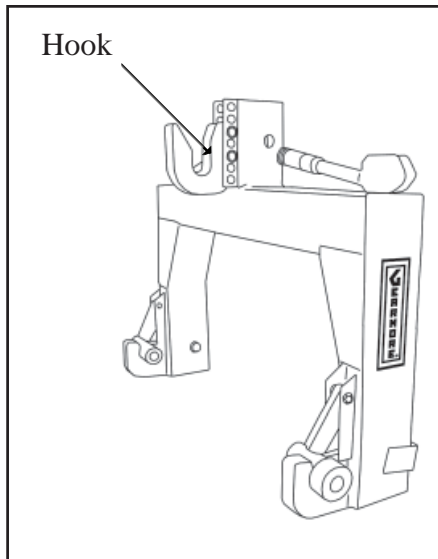

Figure 1
2. If you determine that your implement will not mount to the quick hitch, remove the hook on the quick hitch by taking out the two $1/2"$ x $2 3/4"$ hex cap screws. (See figure 1).